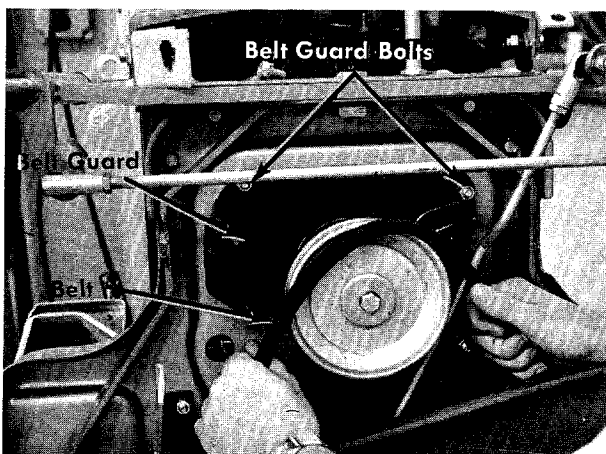

FIGURE 30. REMOVING MOWER BELT
- Step 3. Unhook the belt from the engine pulley. See figure 30.
Step 3. Unhook the belt from the engine pulley. See figure 30.